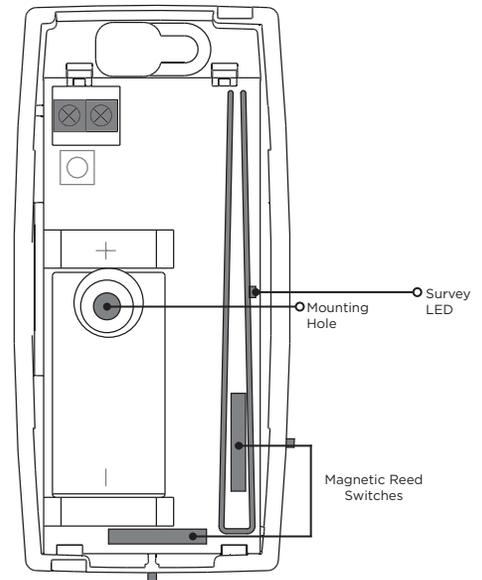

Figure 2: Transmitter Components
2. Observing polarity, place the battery in the holder and press it into place. Refer to Figure 2 during installation.
When mounting the transmitter, refer to Figure 2 for battery and mounting hole location.